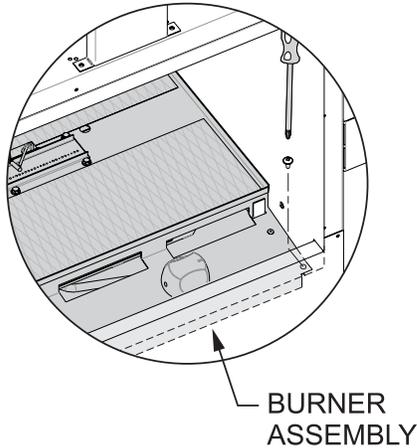

Figure 15
- c. Remove two screws from front corners of the control panel with a Phillips head screw driver. See Figure 15.